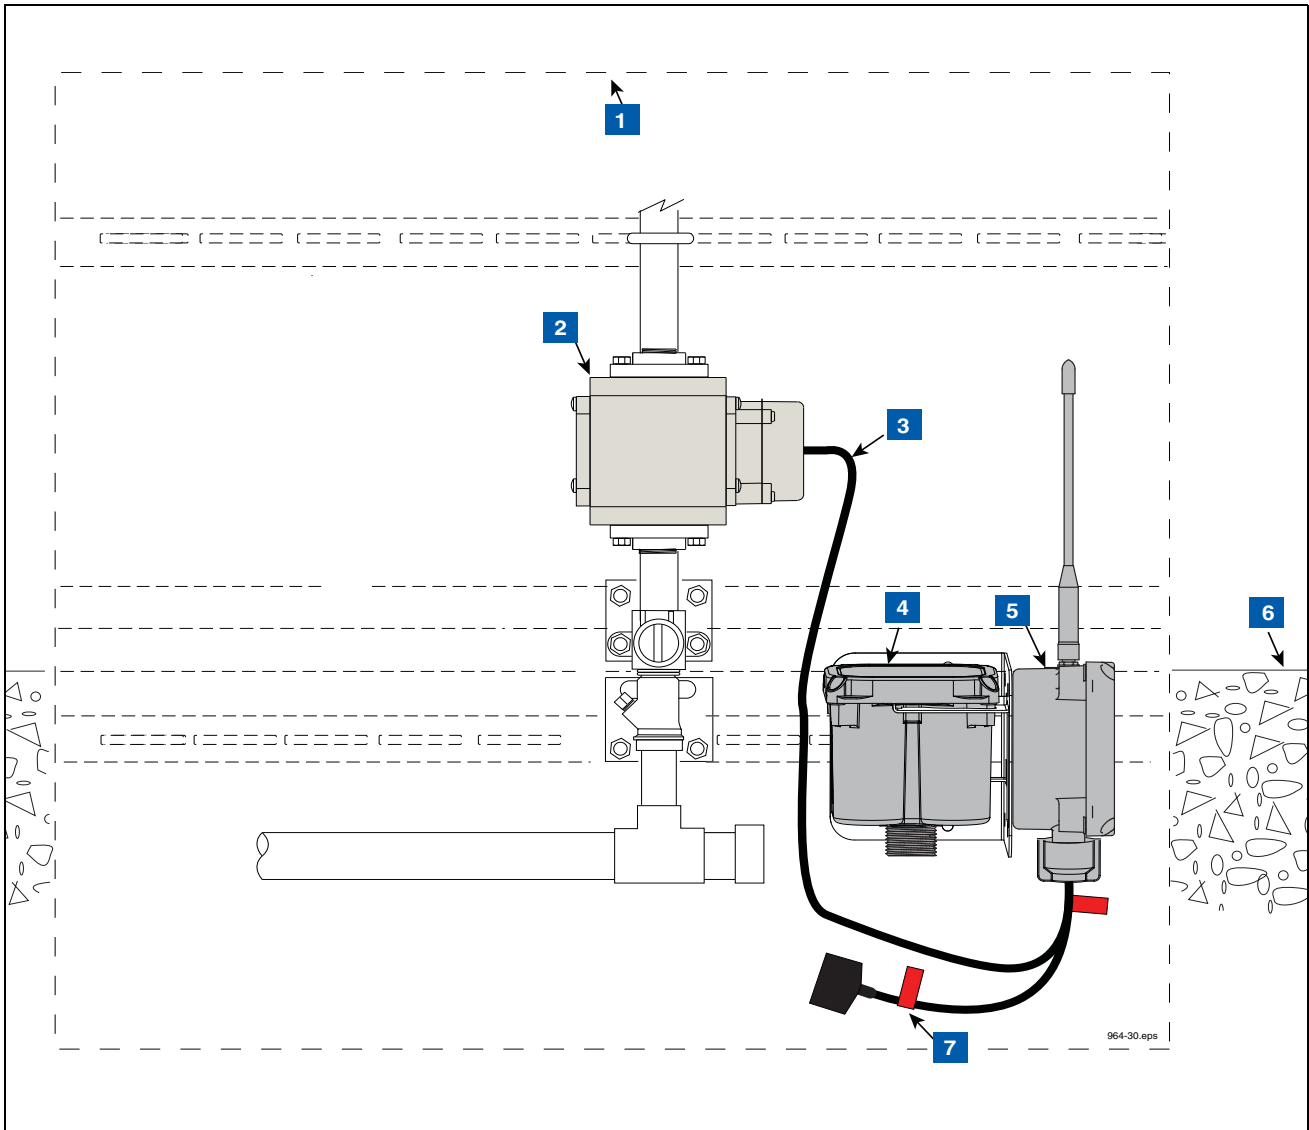

Figure 14. Example VFM Transmitter Installation In Dispenser
5. Determine a support location within the dispenser cabinet that will allow you room for the transmitter/battery support bracket. Clamp the bracket to an available support structure (see Figure 14).
**LEGEND FOR NUMBERED BOXES IN Figure 14**
2. Make sure the battery/DC power cable is not connected to the battery pack (item 5 in Figure 14) or dc power source at this time.